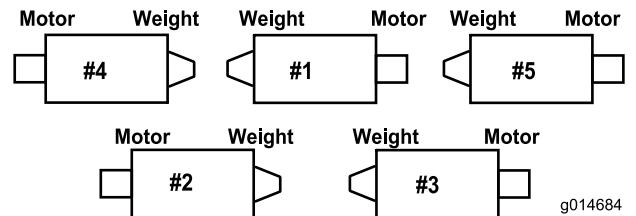

**Figure 6**
- C. Mount the spring tube bolt to the opposite tab on the carrier frame and secure with the flange nut. The bolt head is to be positioned to the outer side of the tab as shown in Figure 6.
- D. Mount the rod bracket to the cutting unit tabs with the carriage bolts and nuts (Figure 6).